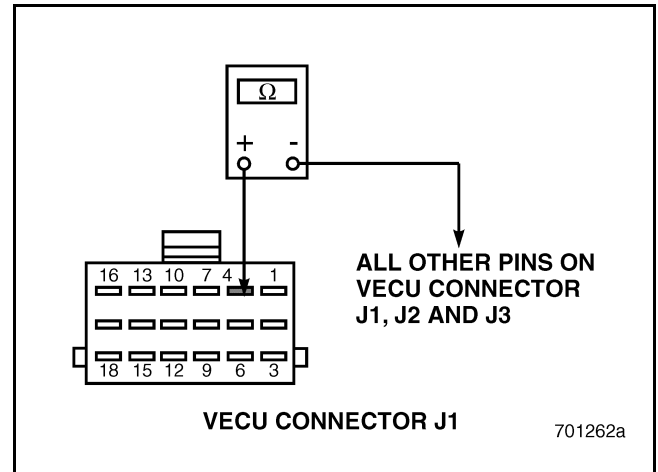

Figure 510
4. Check for continuity between VECU connector J1 pin 4 and all other pins on VECU connectors J1, J2 and J3 (see Figure 510).